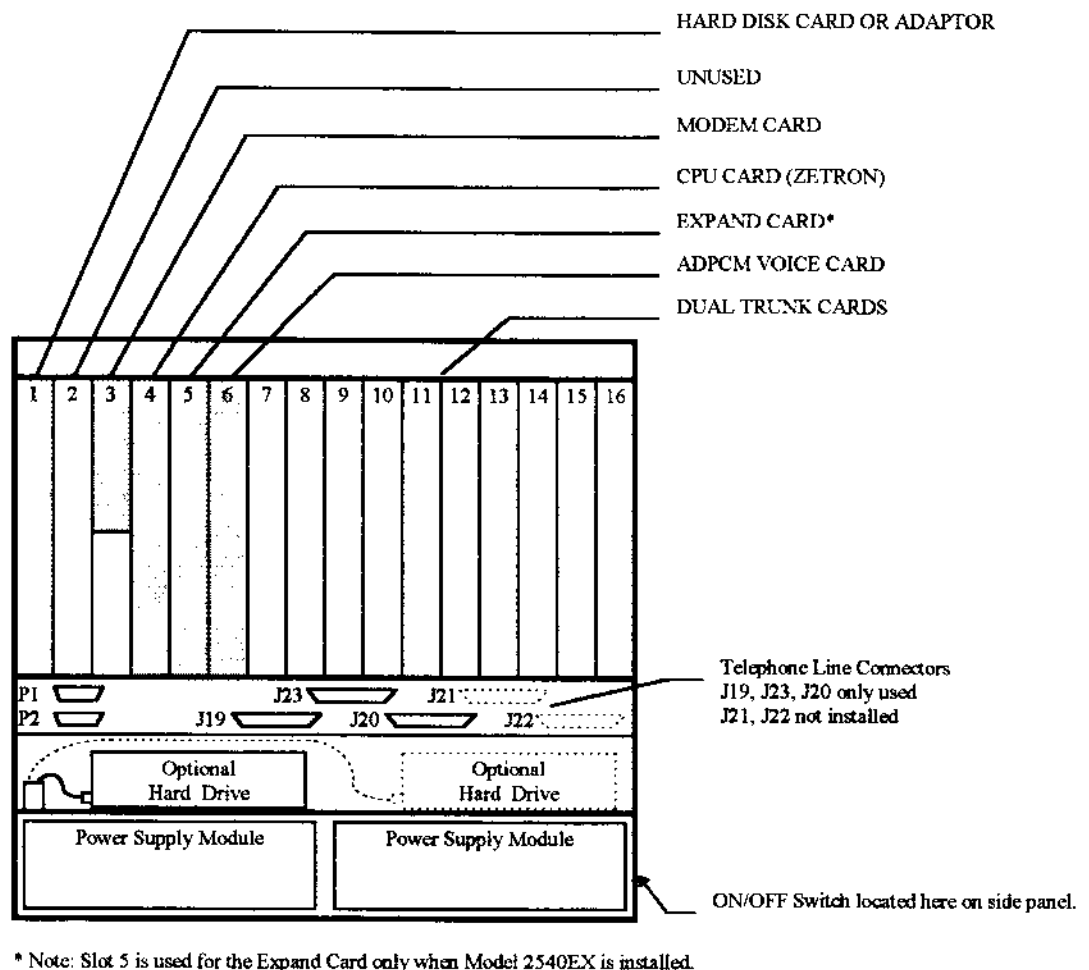

Figure 3-1: Model 2540 Card Slot Assignments
- ☐ b. Remove the #4-40 screw from card slot #1. Refer to Figure 3-1: Model 2540 Card Slot Assignments, for the slot location.
The physical Location of the Hard Drive after installation is illustrated in Figure 3-1: Model 2540 Card Slot Assignments. The Adapter Card resides in Slot 1.
- ☐ 6. The office computer that operates the FASTNet Switch's database can be optionally connected as (1) a remote connection via the 2400/1200 baud modem installed into slot 3, or alternatively, as (2) a local (direct) connection established via the Local RS-232C Port "P2". Refer to Figure 3-1: Model 2540 Card Slot Assignments for locations of the connectors, etc.
- ☐ b. Connect the Local Serial Cable (Zetron p/n 709-7086) between the serial port (Refer to Local connector "P2" in Figure 3-1: Model 2540 Card Slot Assignments) and the computer that is loaded with the Zetron Netbase protocol program or the Zetron Trunk Card Editor program.
- ☐ 3. While holding the SCSI Hard Drive with the connectors facing your left (←), connect the 50-pin cable such that the colored stripe edge of the cable is closest to the front (towards you). Refer to Figure 3-1: Model 2540 Card Slot Assignments.